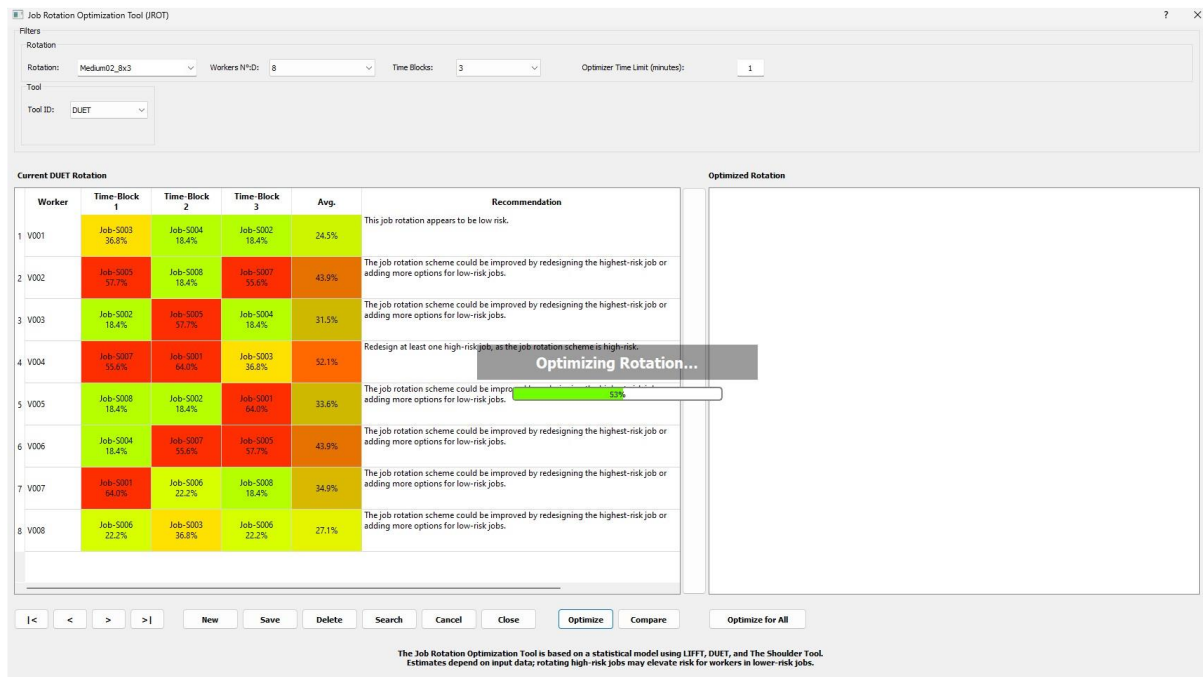

Figure 6. Single-tool optimizer interface with selected tool and optimize button.
- Select the tool and click “**Optimize**” (see **Figure 6**).